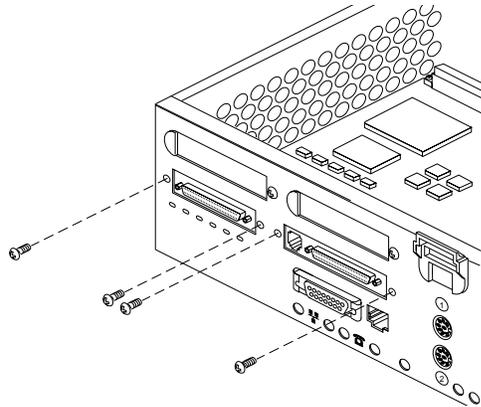

Figure 2-16 Installing the Screws In the IOPLUS Board's I/O Connectors
4. Use the Phillips screwdriver to insert the four screws into the IOPLUS board's I/O connectors at the rear of the server, as shown in Figure 2-16.